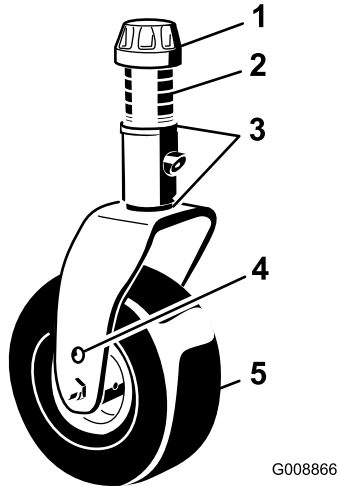

Figure 20
5. Remove the tensioning cap from the spindle shaft and slide the spindle out of the caster arm (Figure 20).